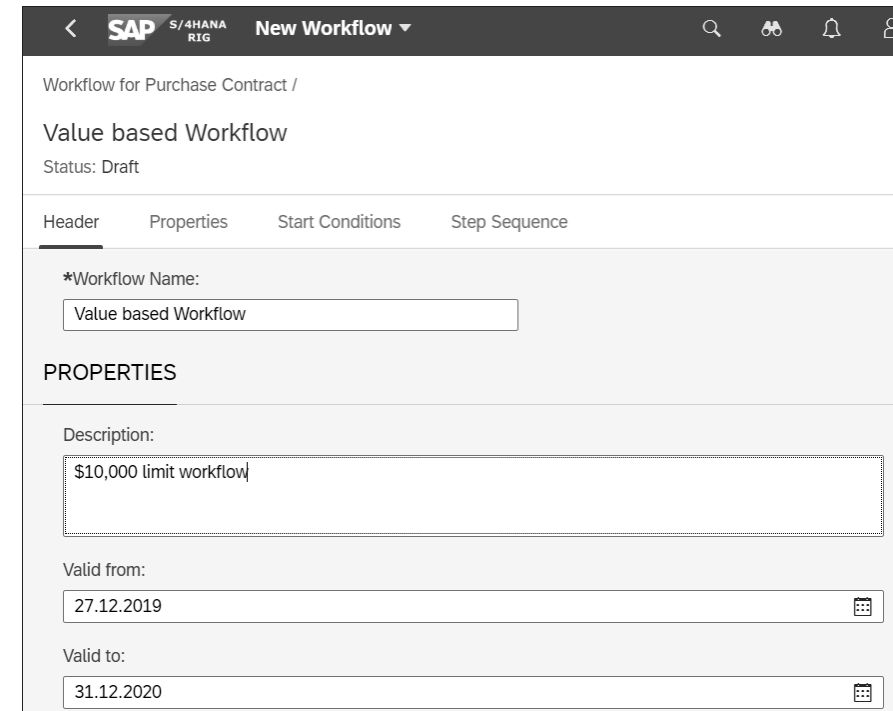

Figure 8.25 Value-Based Workflow Header
- Click the **Add** button to create a new workflow. Enter a name and description if desired and the validity period for the workflow, as shown in Figure 8.25.